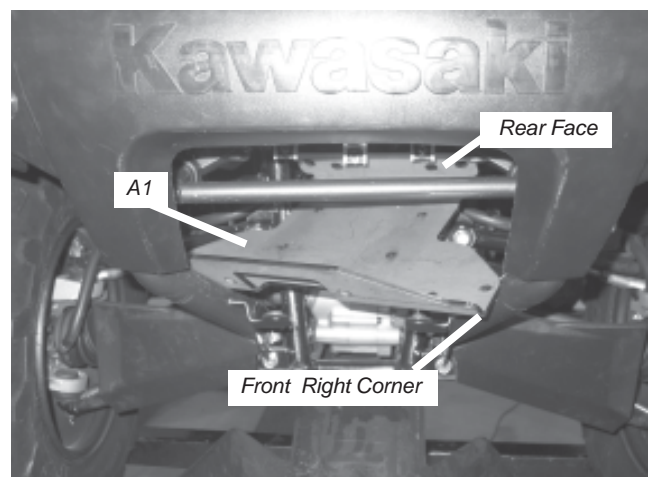

Figure 3 Rear Support Mount Bracket
3. Rotate winch mounting plate (A1), Figure 3. Tilt winch mount forward by raising rear face such that the front right corner clears the front tube guard, Figure 3.